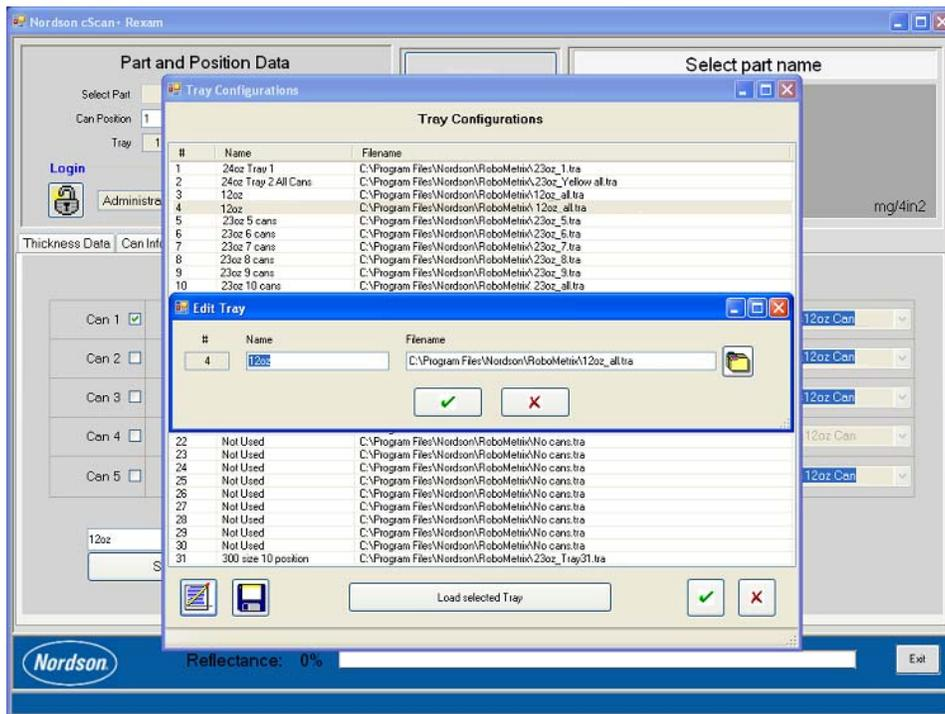

Figure 18 Tray Configuration Option Screen
6. Select the order number in which you would like the tray to appear by double clicking in that row. See Figure 18.